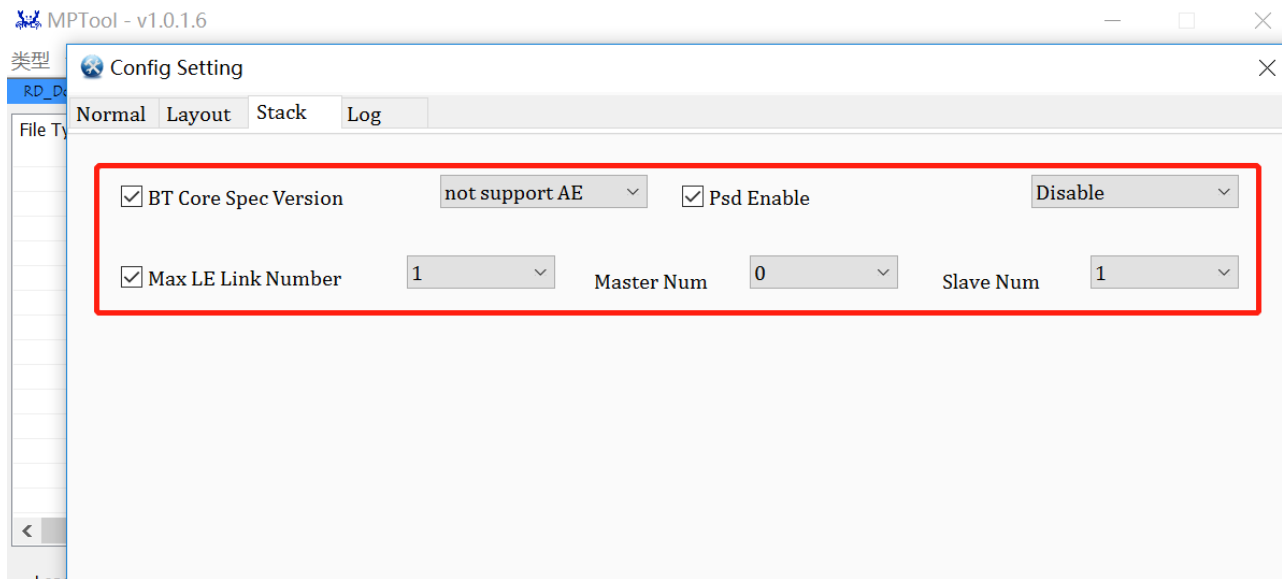

Figure 3-4 Total RAM Size Available for APP Configuration
- 1) Configure Bluetooth as single link: Modify the “stack” page in the Config Set option in MPTool to modify the configuration as shown in Figure 3-4 to add 3KB Data RAM Heap and 1KB Buffer RAM Heap. Therefore, the total RAM size available for APP development is increased to 95 (Data RAM Global) + 9 (Data RAM Heap) + 5 (Buffer RAM Heap) + 16 (Cache share ram) = 125 KB.